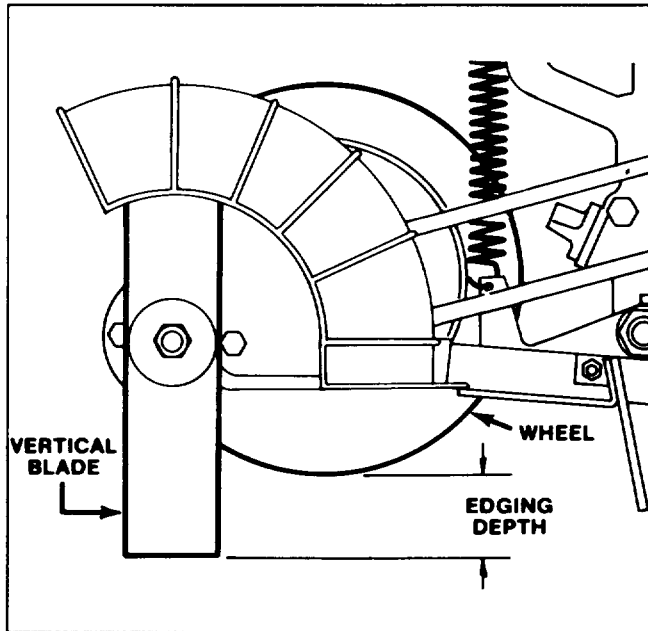

Figure 9
2. **CHECK EDGING DEPTH** (Fig. 9)—Squeeze blade/clutch lever against handle. Space between bottom of tire and ground is actual blade edging depth. If adjustment is required, go to step 3.